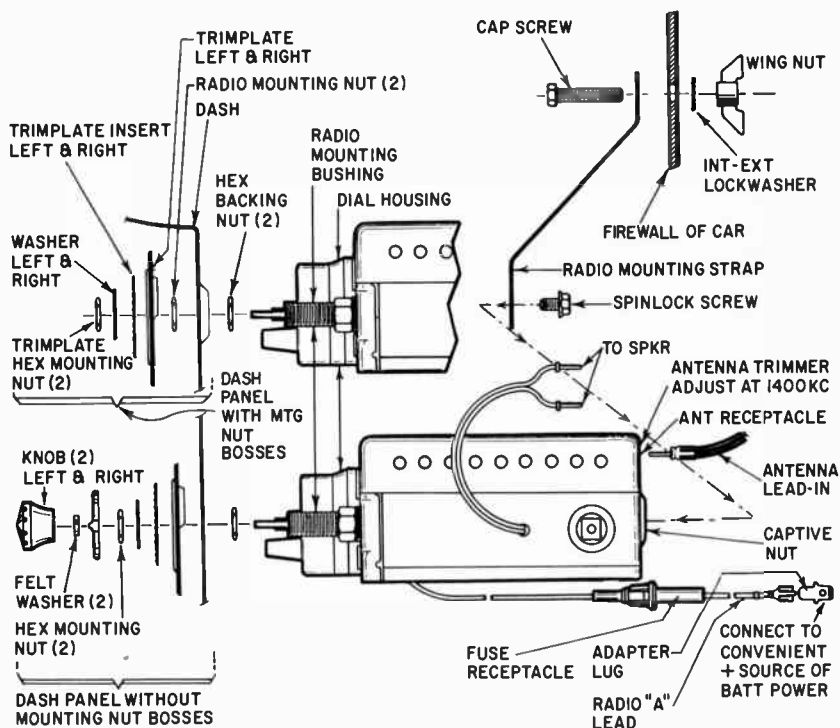
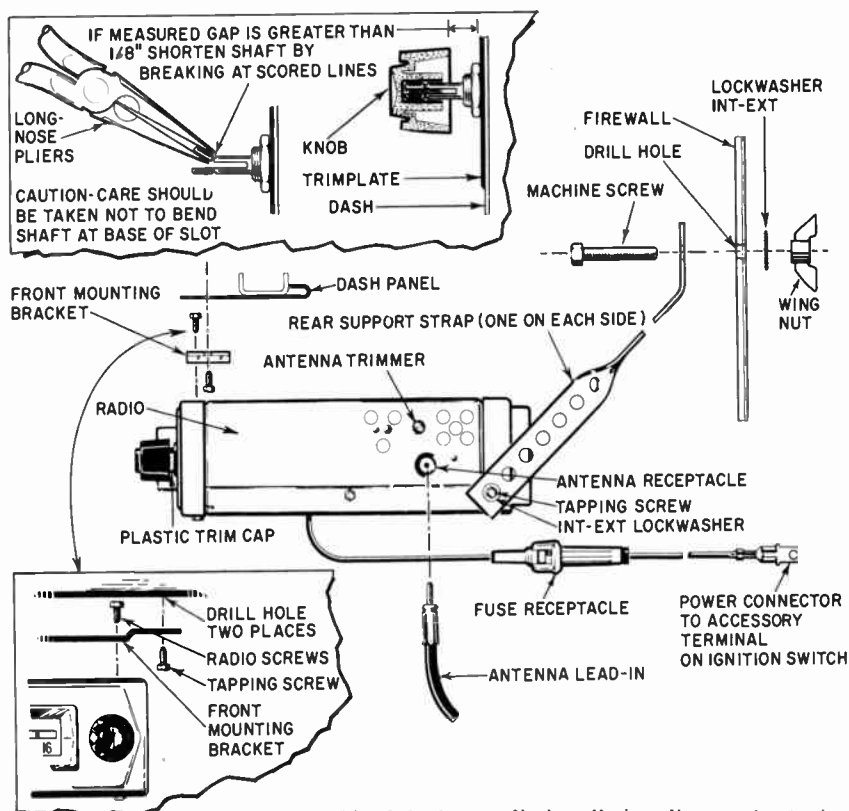
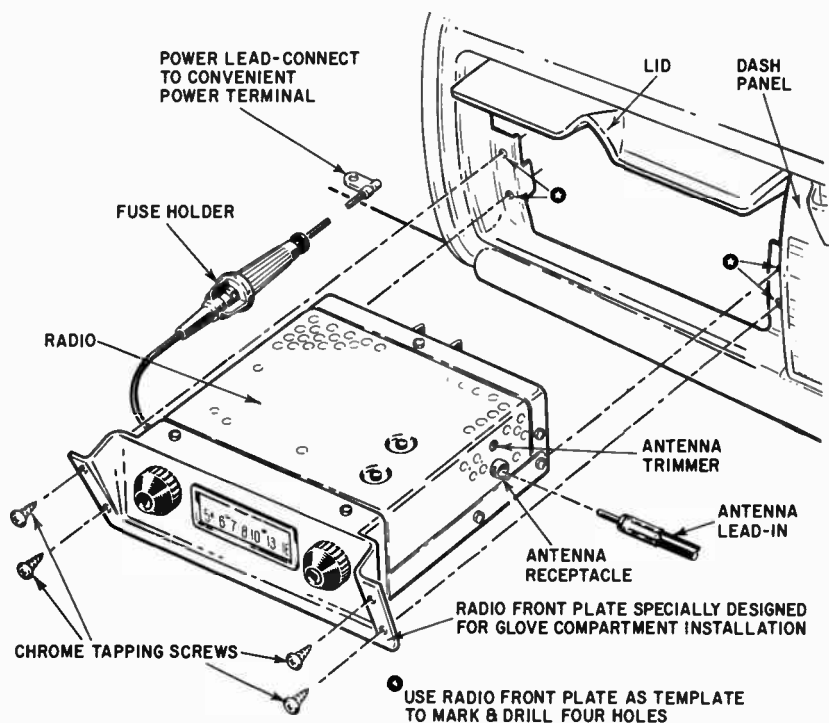

Fig. 318. Auto radio installation diagram for typical in-dash installation.
Fig. 321. Auto radio installation diagram for typical under-dash installation.
Fig. 323. Auto radio installation diagram for typical glove-compartment installation.
The installation diagrams of Figs. 318 and 319 provide details of typical in-dash arrangements.
The under-dash installation will also require two basic mechanical connections: the front of the radio must be supported at the lip of the dash; the rear of the radio must be supported at the rear of the dash. Often brackets are used to accomplish both. Refer to the under-dash installation diagrams of Figs. 321 and 322 for information on typical arrangements.
a special front plate to facilitate mounting. The installation diagram of Fig. 323 is typical.
tions. The diagrams should provide the enterprising service technician with a myriad of installation hints and kinks. Figs. 318 and 319 cover variations of the in-dash installation, while Figs. 321 and 322 cover variations of the under-dash installation. Fig. 323 shows a typical glove-compartment setup; Fig. 324, a typical floor installation. In all cases, hardware sizes will vary with the make and model of the radio.
4. Using a fiber screwdriver, adjust the antenna trimmer control (Fig. 321) for maximum volume from the speaker. (In the absence of a signal, adjust for maximum background noise).